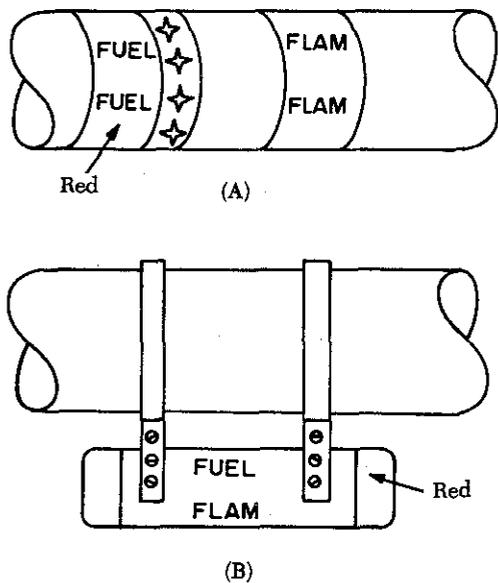

FIGURE 5-4. Fluid line identification using: (A) tape and decals and (B) metal tags.
In most instances, fluid lines are marked with 1-inch tape or decals, as shown in figure 5-4 (A).
On lines 4 inches in diameter (or larger), lines in oily environment, hot lines, and on some cold lines, steel tags may be used in place of tape or decals, as shown in figure 5-4 (B). Paint is used on lines in engine compartments, where there is the possibility of tapes, decals, or tags being drawn into the engine induction system.